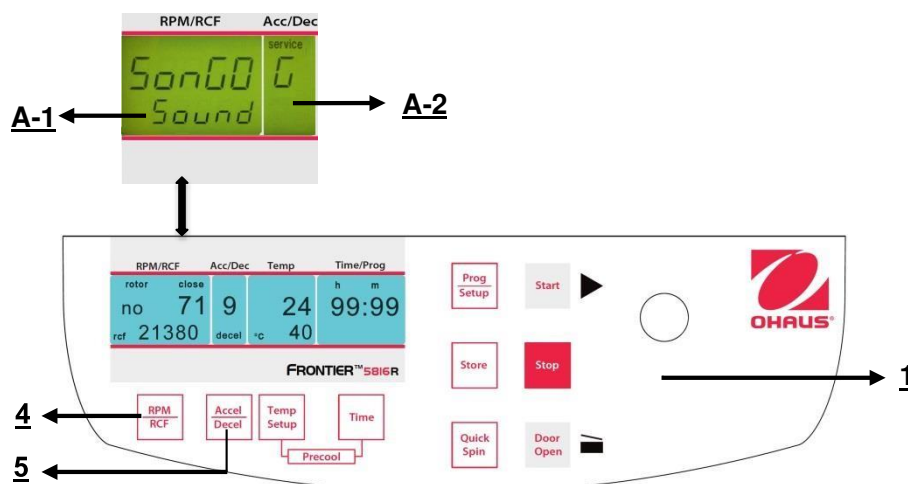

Figure. 37
Proceed as described under point 4.1.1 to enter this program mode and then press the key **"Accel/Decel"** (5). In the display **"Acc/Dec"** (A-2) the word **"Service"** flashes. Now select the letter **"G"** with the adjusting knob (1). As a result, in the display **"RPM | RCF"** (A-1), the word **"SonGo/Sound"** appears. After pressing the key **"RPM | RCF"** (4), you can select a song with the adjusting knob (1). (See figure 37).